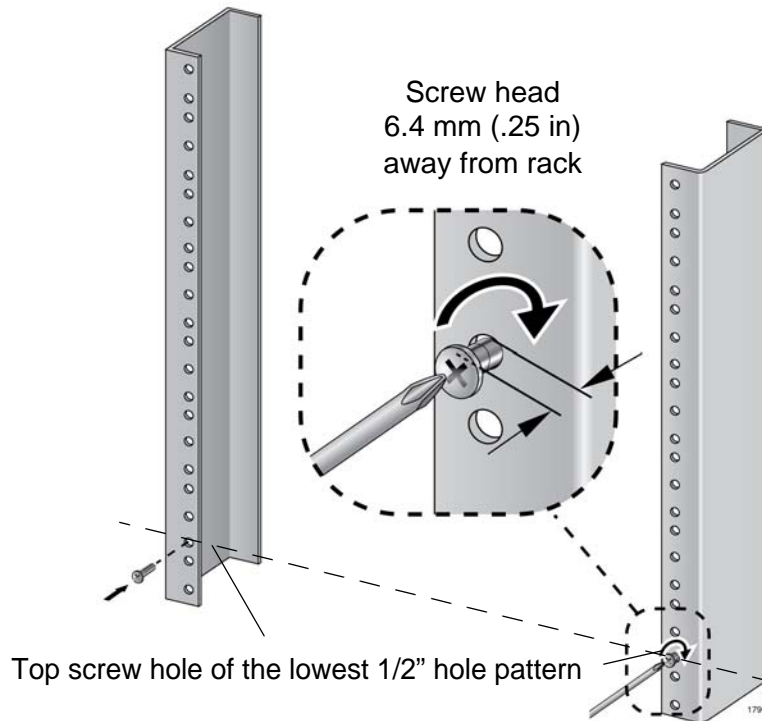

Figure 32. Rack Mounting Hole Locations
4. Install one rack mount screw in each vertical rail, at the same height in the top screw hole of the lowest 1/2" hole pattern, as shown in Figure 32. The screws are used to support the chassis while you secure it to the rack. Do not fully tighten these two screws at this time. The screw heads should protrude from the rack approximately 6.4 mm (.25 in).